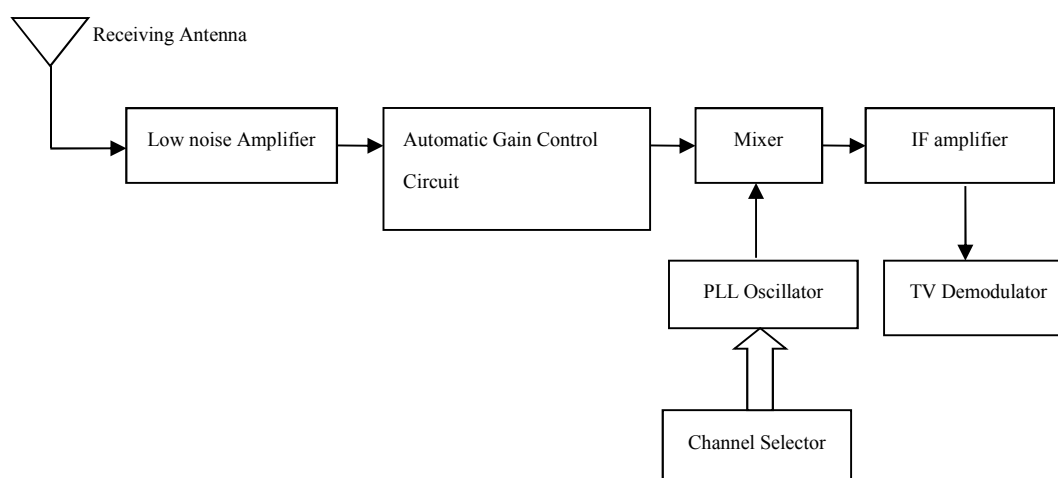

Fig.6 SD3201R Receiving system composition diagram
b) SD3201R Receiving system composition diagram(See Fig.6)